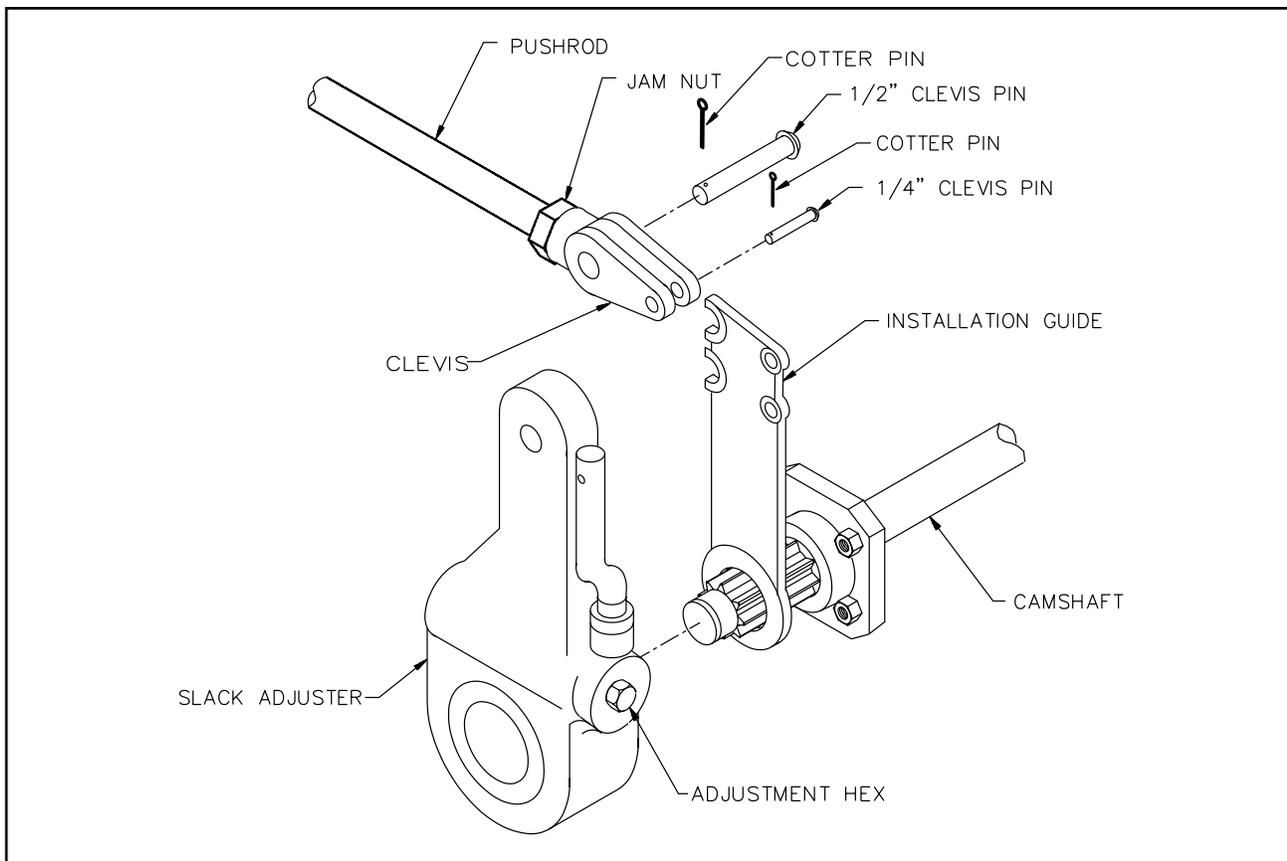

Figure 4-11 Slack Adjuster
4. Disconnect the slack adjuster from the connecting rod by removing the clevis pin (**See Figure 4-11**).
4. Remount the brake chamber on the axle brackets and reconnect the air service hoses and the slack adjuster connecting rod (**See Figure 4-11**).
a. Operational Check (See Figure 4-11)
b. Replacing Slack Adjuster (See Figure 4-11)